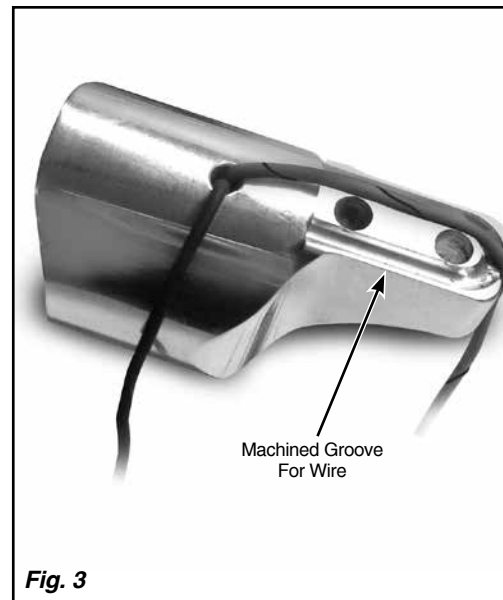

Fig. 3
Step 3: When mounting the taillight assembly, run the two wires in the machined grooves on the mounting surface of the taillight housing. This will prevent the wires from being pinched when tightening the fasteners. **Fig. 3** Install the taillight onto the Lokar Dial-In Board or your desired location using the two supplied #10-24 x 3/8" socket cap screws.